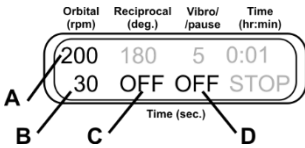

Figure 4.
7.9.1. **Orbital motion.** Set the speed (fig. 4/A, 20–250 rpm) and time (fig. 4/B, 1–250 s) of Orbital motion. Turn off Reciprocal motion (fig. 4/C) by setting time of the cycle to zero (OFF). Turn off Vibro motion (fig. 4/D) by setting time of the cycle to zero (OFF).